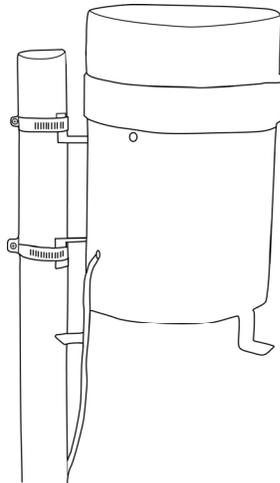

Figure 1: Pole or Tripod Mount
- Use hose clamps to mount on pole or tripod (see Figure 1 below)